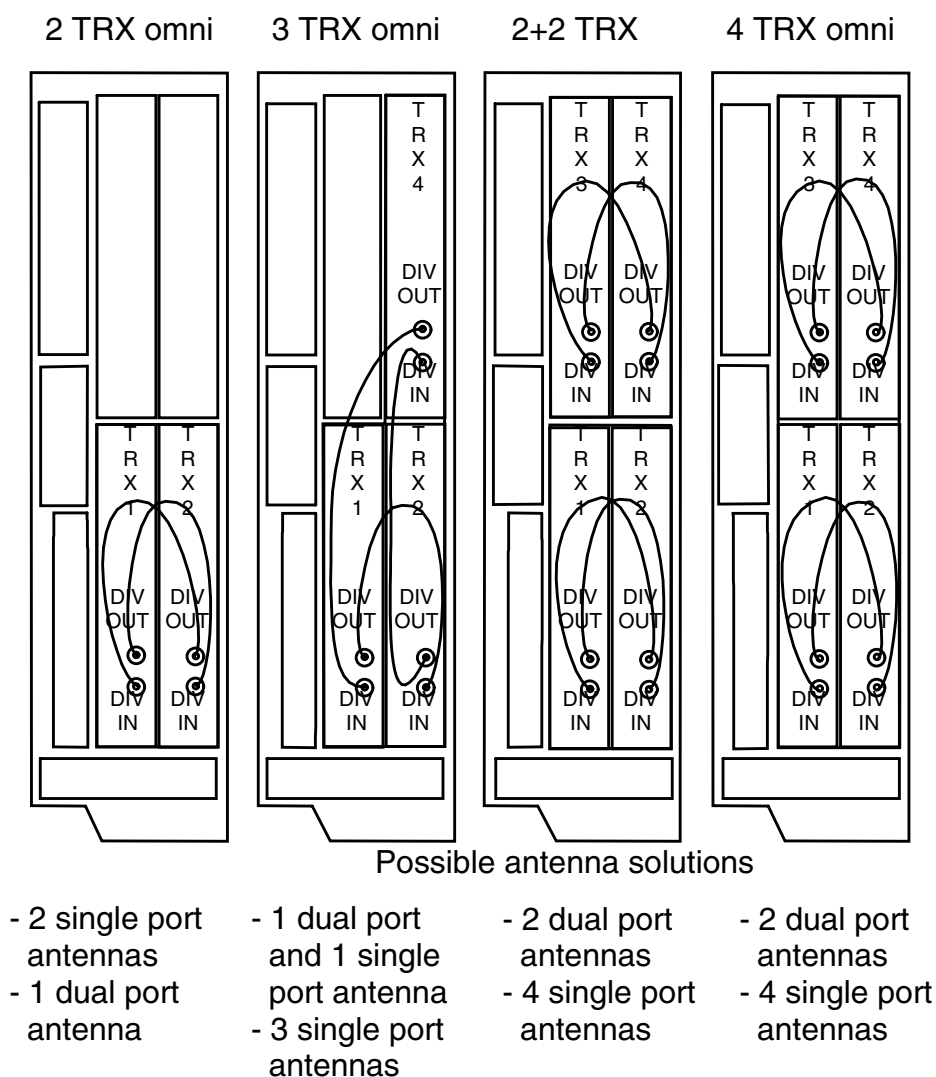

Figure 25. Examples of diversity cabling alternatives
2. Reconnect the diversity cables to form the desired diversity configuration. Examples of different sectoring alternatives and their diversity cabling are presented in Figure 25.